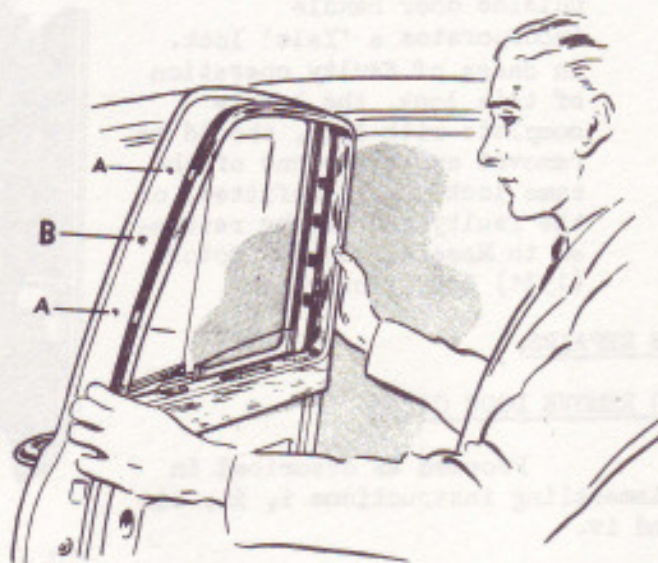

FIG. 4. REMOVING FINISHER.
- (c) Remove the seven fixing screws from the door edge face retaining finisher, as indicated by arrows "A", (Fig.4). Do not remove screw shown by arrow "B".
- (c) Remove retaining screw from door edge face, (B, Figs. 4 and 10).
Place ventilator in position and refit retaining screw in pillar edge face (B, Figs. 4 and 10).